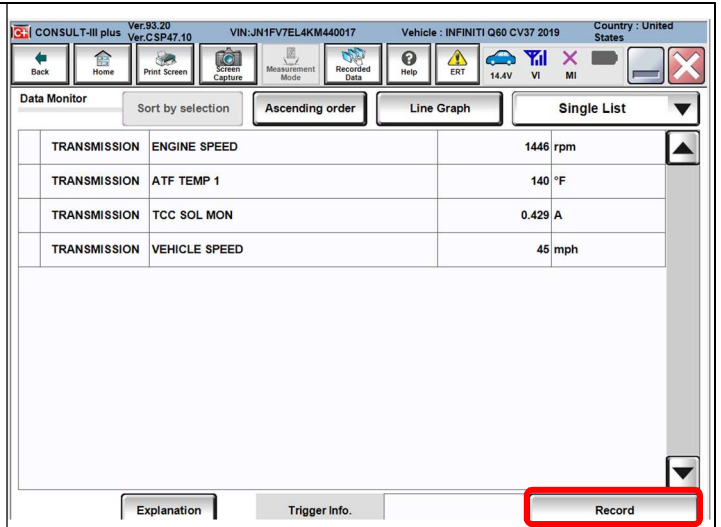

Figure 9
- While driving at a **constant speed**, select record on the lower RH portion of the Consult screen (Figure 9)